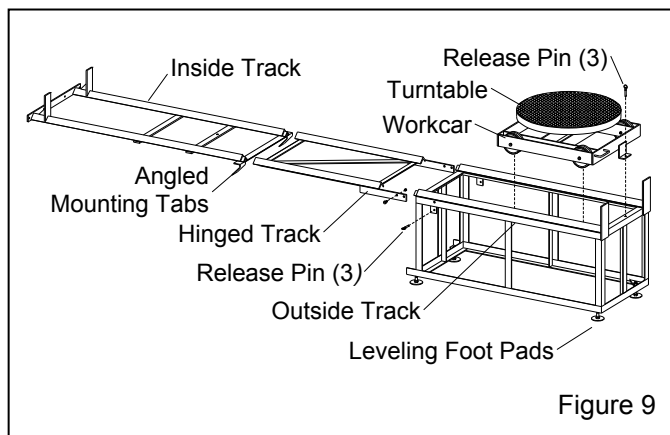

Figure 9
3.4.1 These instructions cover field installation of the 2000 lb. capacity track and work cart with turntable. If the track was ordered with the cabinet, it is partially assembled at the factory. Disregard the instructions that do not apply. Refer to Figure 9 for arrangement of the major components.